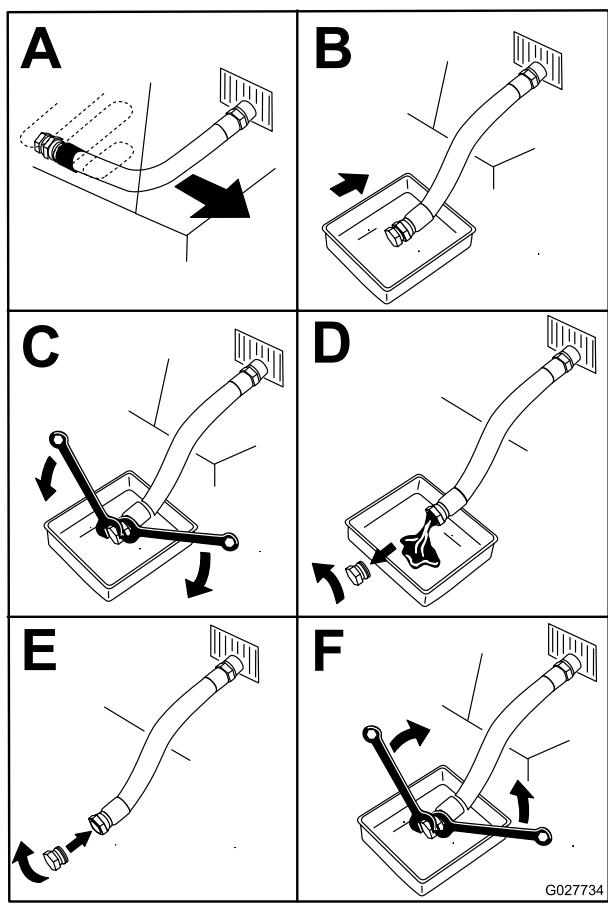

Figure 52
3. Stop the engine, remove the key, and wait for all moving parts to stop before leaving the operating position (Figure 52).